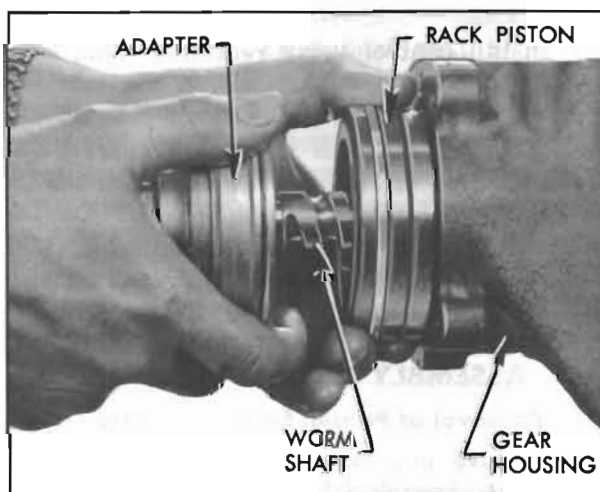

Figure 8-25—Removing Rack-Piston and Worm Assembly
5. Remove four loose centering springs and pull rack-piston and worm assembly out of housing. See Figure 8-25.